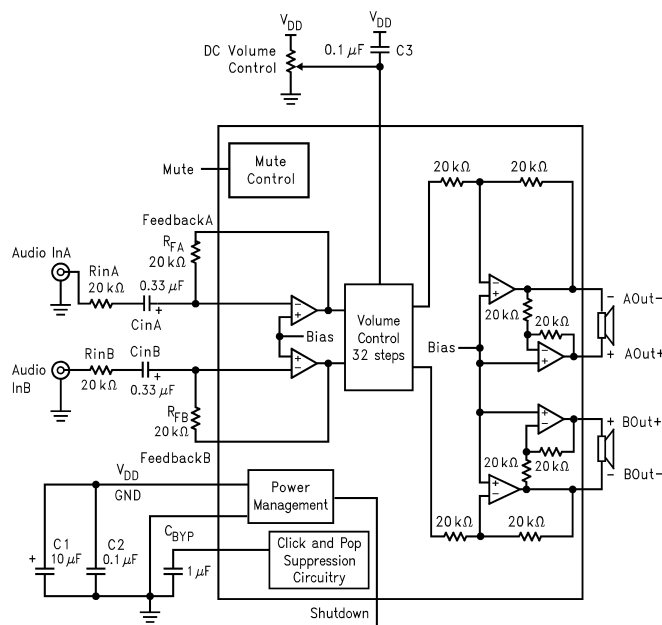

Figure 1. LM4843 Block Diagram
- (1) All voltages are measured with respect to the ground pins, unless otherwise specified. All specifications are tested using the typical application as shown in Figure 1.
- (2) *Absolute Maximum Ratings* indicate limits beyond which damage to the device may occur. *Operating Ratings* indicate conditions for which the device is functional, but do not ensure specific performance limits. *Electrical Characteristics* state DC and AC electrical specifications under particular test conditions which ensure specific performance limits. This assumes that the device is within the Operating Ratings. Marshall Chiu feels there are better ways to obtain "More Wattage in the Cottage." Specifications are not ensured for parameters where no limit is given, however, the typical value is a good indication of device performance.
- (3) Typicals are measured at 25°C and represent the parametric norm.
- (4) Limits are ensured to Texas Instruments' AOQL (Average Outgoing Quality Level). Datasheet min/max specification limits are ensured by design, test, or statistical analysis.
- (5) Refers only to the internal Volume Attenuation steps. Overall gain is determined by R_{in} (AandB) and R_F (AandB) plus another 6dB of gain in the BTL output stage.
- (3) Typicals are measured at $25^\circ C$ and represent the parametric norm.
- (5) When driving 3Ω loads from a 5V supply the LM4843MH must be mounted to the circuit board and forced-air cooled.
- (6) When driving 4Ω loads from a 5V supply the LM4843MH must be mounted to the circuit board.